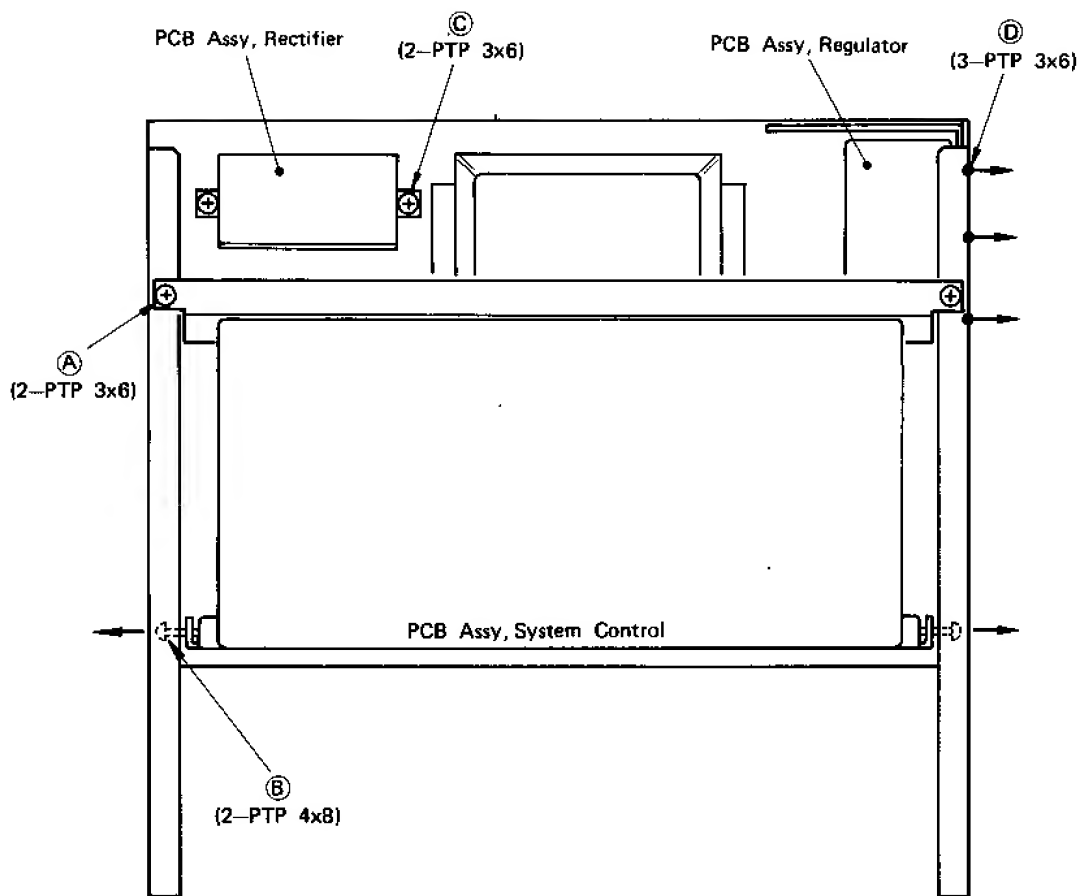

Fig. 6-6
7) System control PCB assembly (Fig. 6-6)
- * Upon removing the two screws (A), the system control PCB assembly can be swung down pivoted on the lower two screws (B).
- * The assembly can be taken out completely if either one of the (B) screw is removed.
- * The rectifier assembly can be removed by unscrewing the two (C) screws.
9) Regulator assembly (Fig. 6-6)
- * The regulator assembly can be removed by unscrewing the three (D) screws.